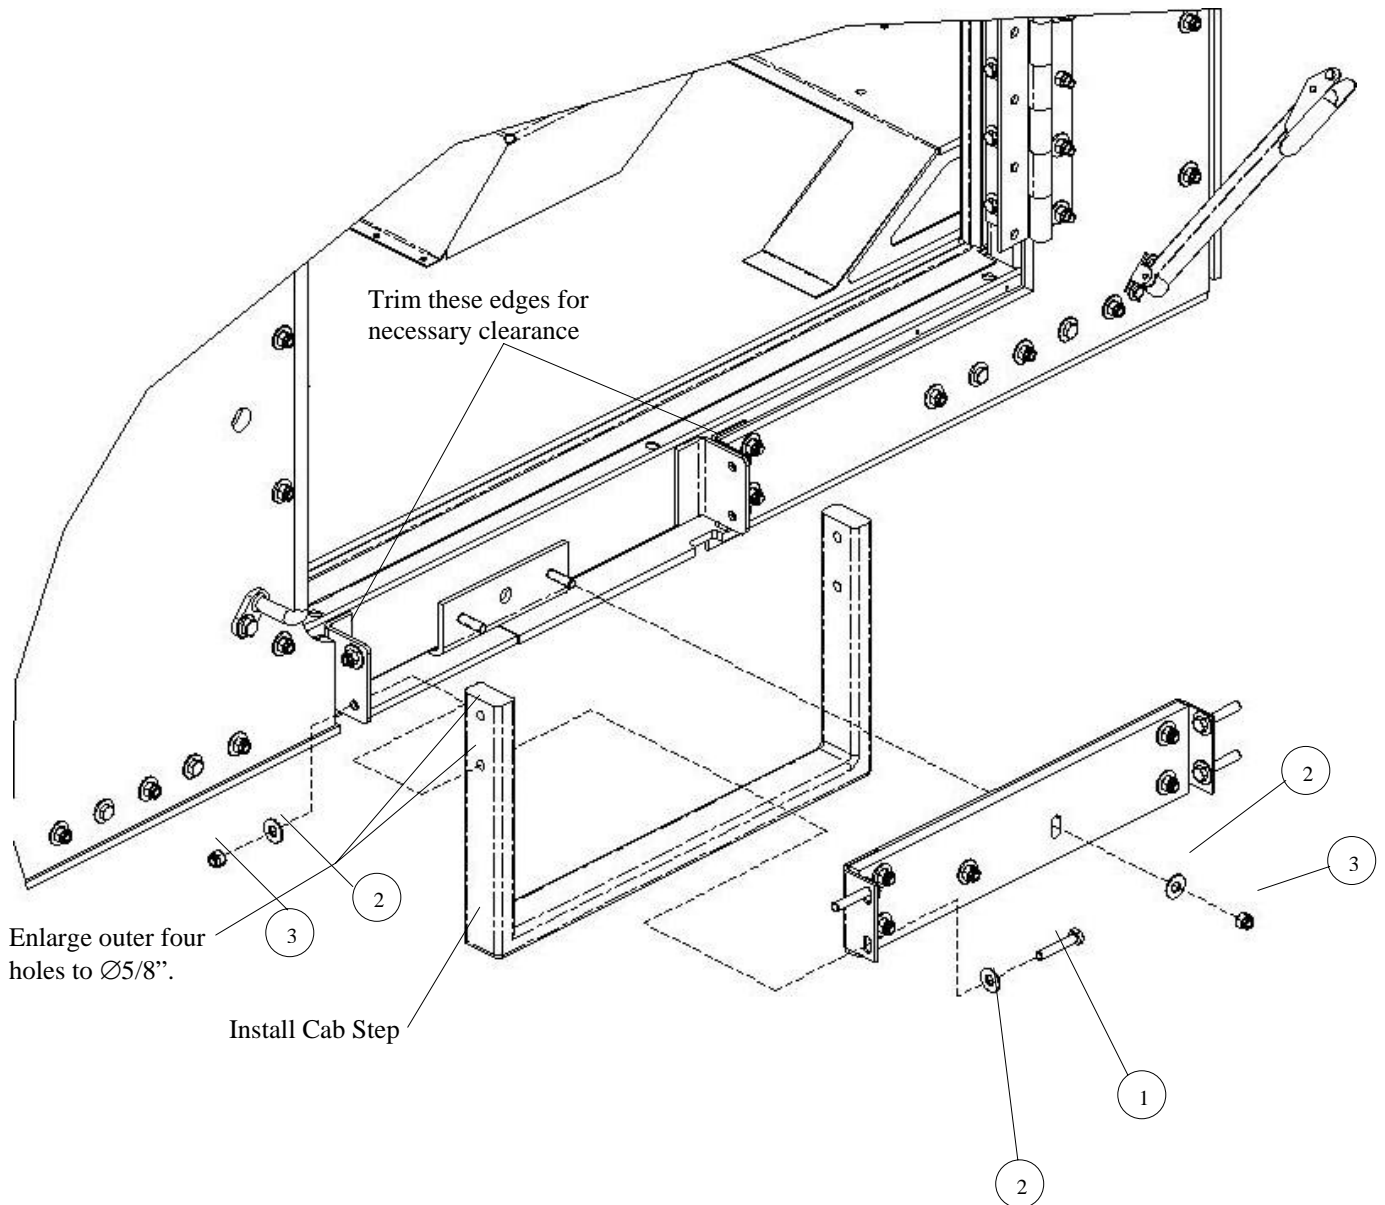

Figure 3-68. Right Step Panel Installation.
2. Install right step panel assembly as follows (see Figure 3-68):
- a. Enlarge outer four holes in cab step to  $\text{Ø}5/8''$ . This allows the position of the step to be lowered slightly during re-installation for necessary clearance of the new armored door seal. In addition, it may be necessary to trim the step brackets as shown in Figure 3-68.
- b. Install right step panel assembly into position with original cab step, between welded step brackets on cab frame and against step joiner bracket and secure with four bolts (1), eight flat washers (2), and four locknuts (3). Torque locknuts to 35 lb-ft.
- c. Install two flat washers (2) and locknuts (3). Torque locknuts to 23 lb-ft. (Be sure to lower the position of the cab step.)